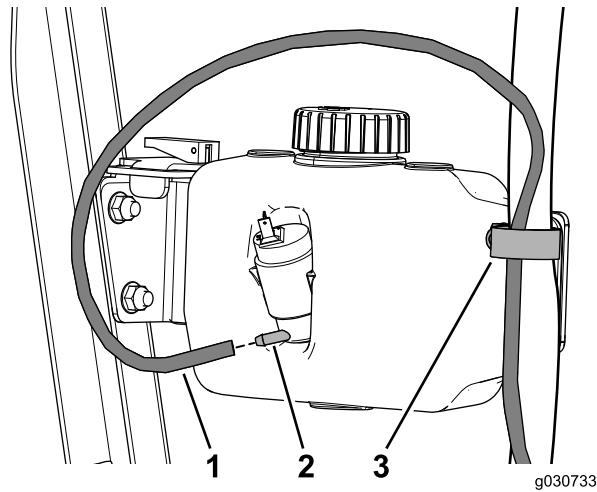

Figure 42
2. Route the washer hose through the R-clamp and connect it to the washer bottle (Figure 42).